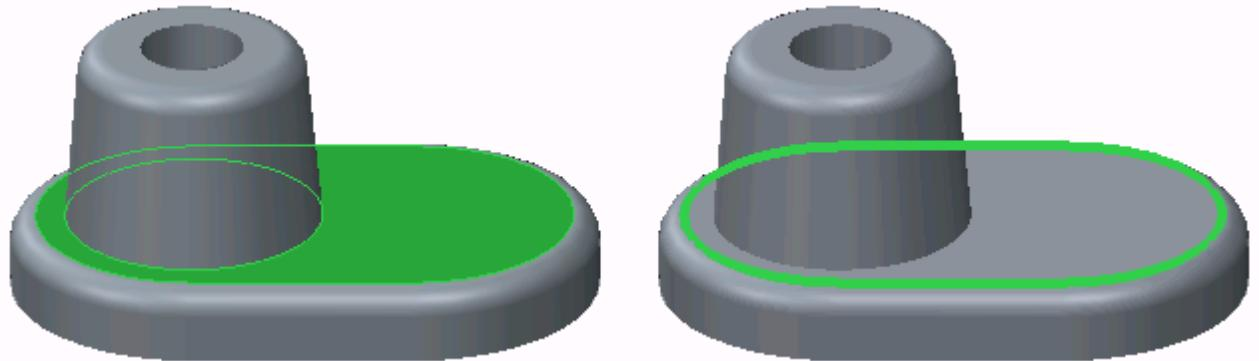
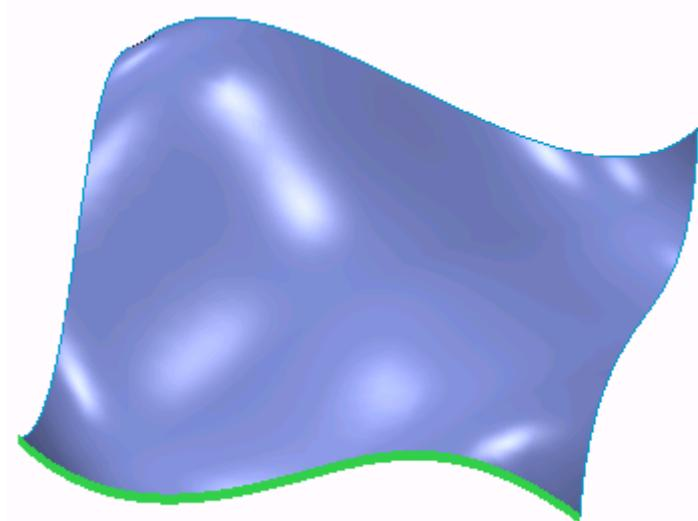

Figure 3 – Solid Surface and Edge
Figure 4 – Surface Edge
- Solid Surfaces – A face of a solid feature, such as the solid model shown in Figure 3.
- Edge – An edge is the boundary of a solid, as in Figure 3 or a surface, as in Figure 4.